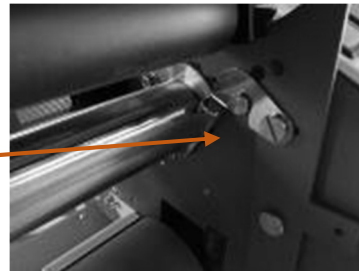

Fig.18b
2. Ensure latch is in the locked position whenever the feed tray is rotated to the up position, Fig.18b.